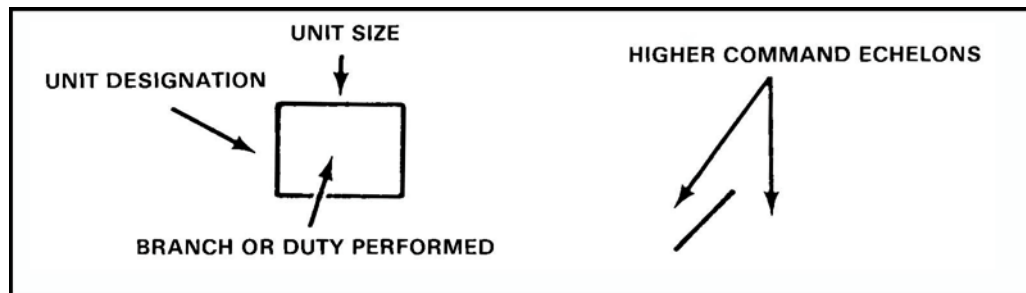

Figure 3. Development of unit symbol.
b. Development of a unit symbol (Figure 3).